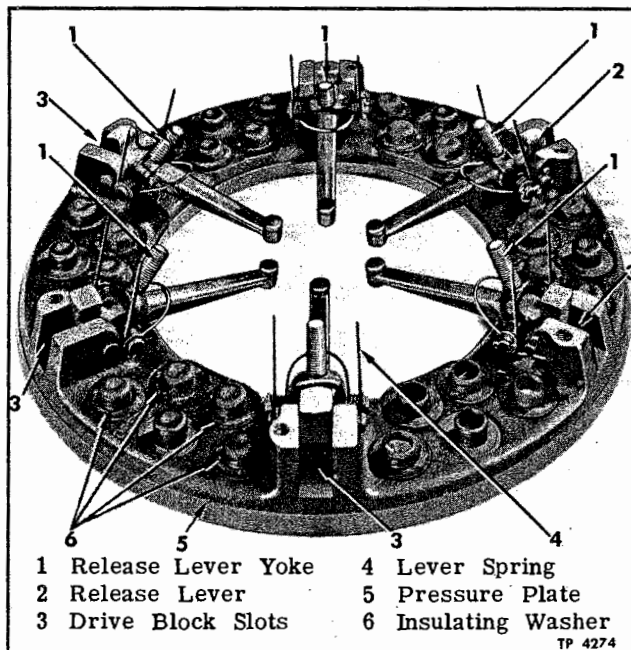
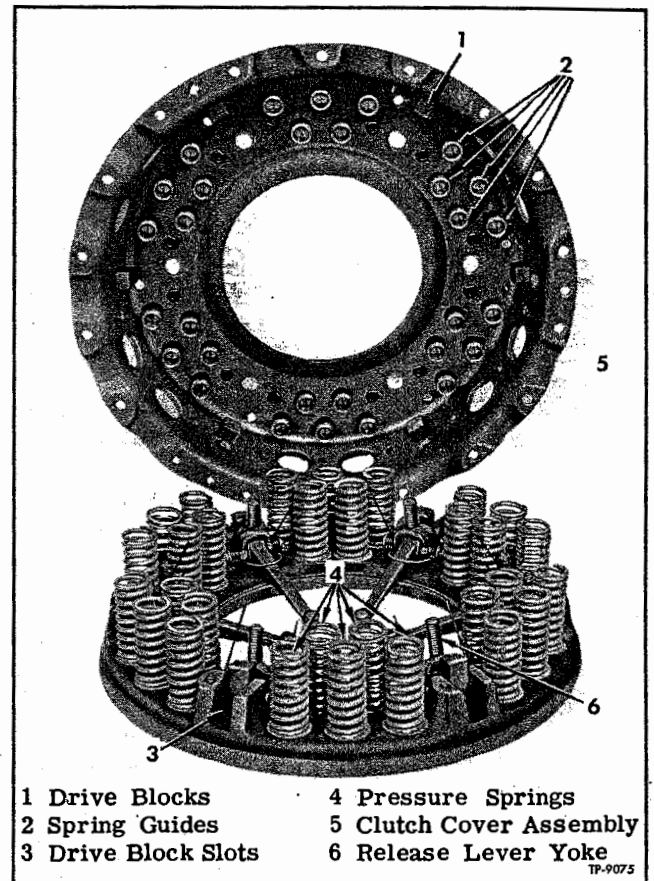

Figure 11—Pressure Plate and Release Levers
Figure 12—Spring Arrangement on Pressure Plate
Either the clutch pressure plate (3) or flywheel clutch plate (42), or both, if scored, or checked, can be refaced to produce a flat smooth surface. Before beginning resurfacing operation, measure thickness of parts. This is necessary to determine if parts have been resurfaced previously. Measure thickness of clutch pressure plate from front face to finished face of pressure spring seat. Be sure insulating washers (6 fig. 11) have been removed.
2. Place pressure plate and levers assembly (fig. 11) face downward on bench. If the pressure plate has been resurfaced, place 1/32-inch shims between insulating washers (28) and spring bosses on pressure plate. Use one shim for each 1/32" of material removed during resurfacing operations. Refer to figure 12 for proper position of springs on pressure plate.